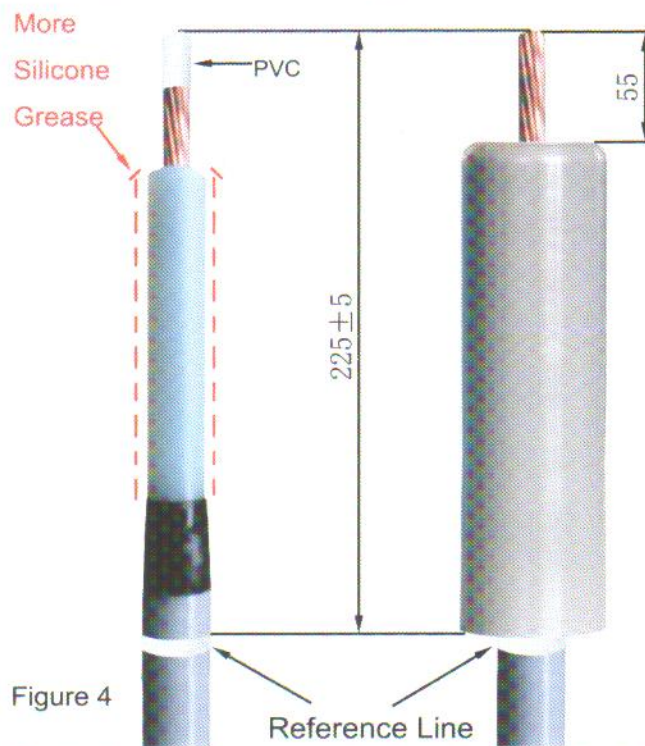

Figure 4
2.4. Installation of Cable Adapter (Figure 4)